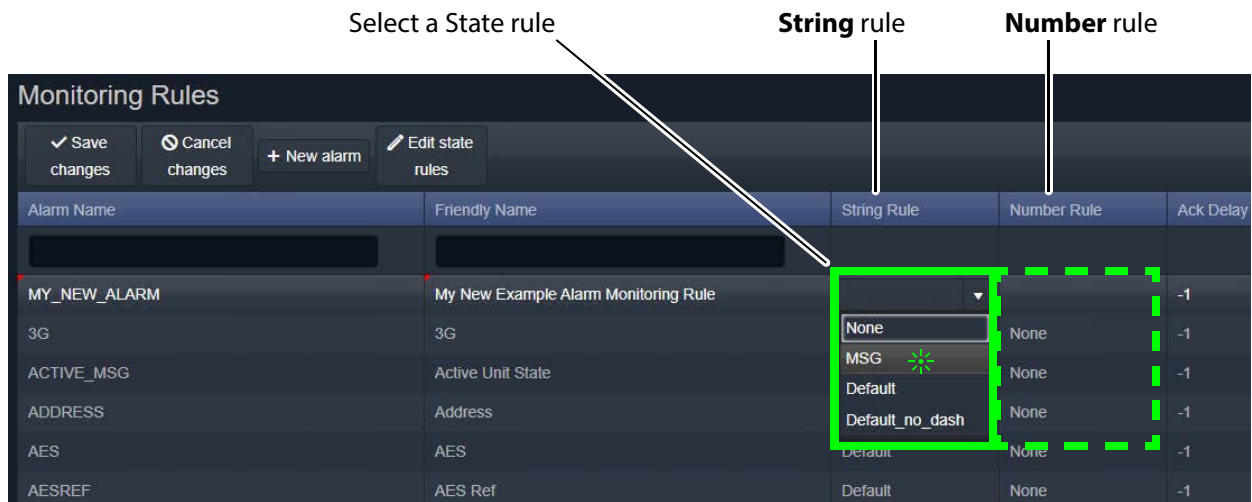

Figure 62: Select a State Rule to Use (String or Number)
- Select state rule to use (for example, a **String** rule and/or a **Number** rule). See Figure 62.